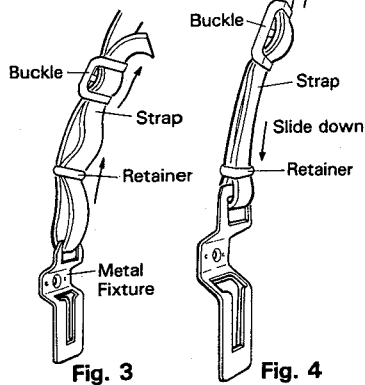

Fig. 3
- 3) Pass the strap through the Metal Fixture then back thru the retainer, and finally thru the buckle, as shown in Figure 3.